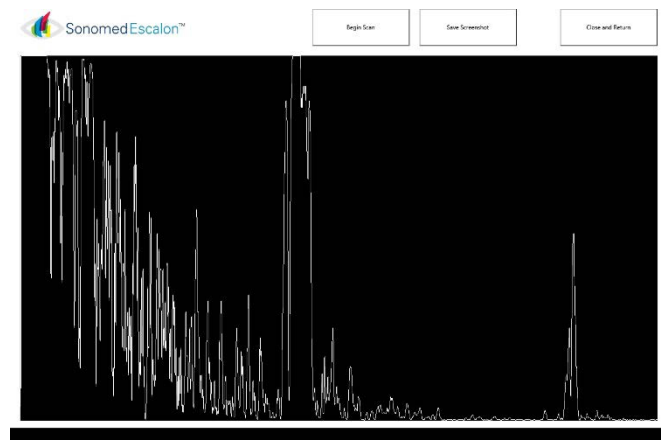

Figure 33: Diagnostic-A Utility Screen
- ⑤ **Application Window:** Upon selecting the 'Diagnostic-A Utility' button the VuMAX HD patient database will momentarily close and the Diagnostic A-Scan Utility screen will open (Figure 33).